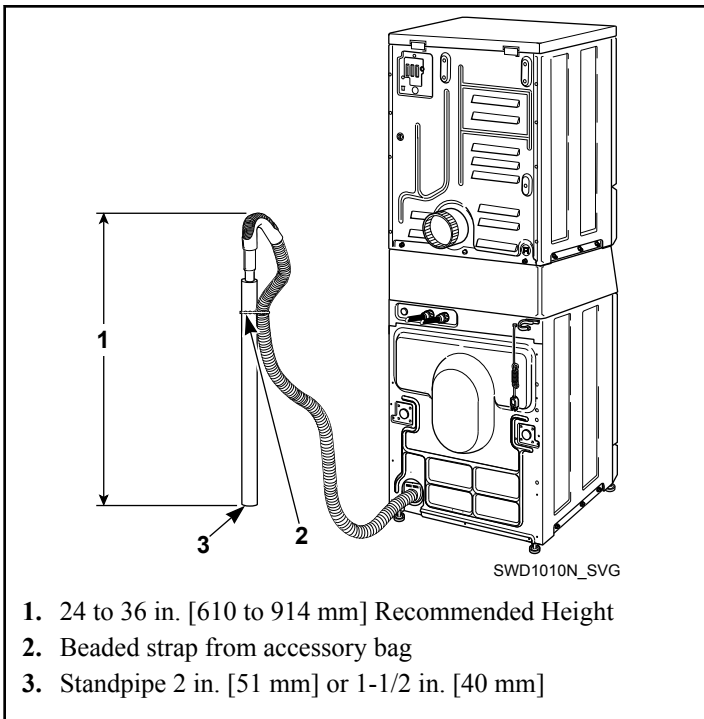

Figure 8
2. Remove the beaded tie-down strap from accessories bag and place around standpipe and drain hose. Refer to Figure 8 .